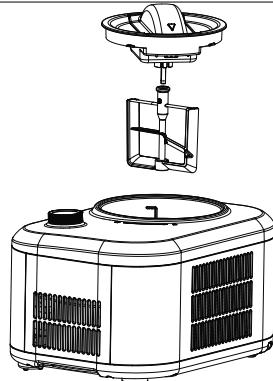

Fig. 7
- Place the components assembled in the previous step into the appliance, more specifically into the cooling chamber (see Fig. 7).